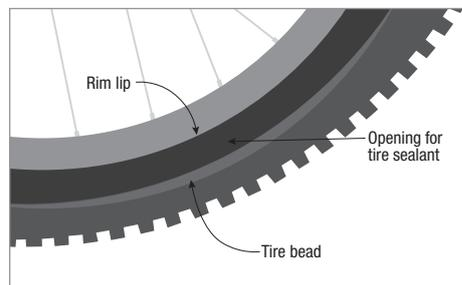

Figure 9
6. Place your hands on the uninstalled tire bead opposite the valve. Then push the bead over the rim lip, working your way around the rim until most of the bead is in the center of the rim. Leave a section of the bead off the rim so that sealant can be poured into the tire (Fig. 9).